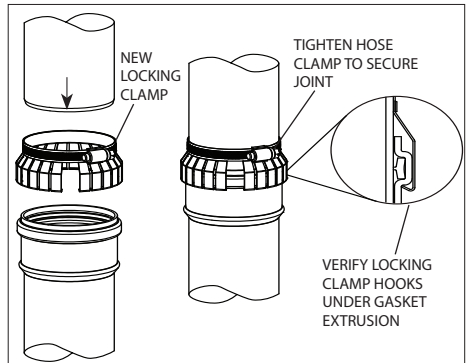
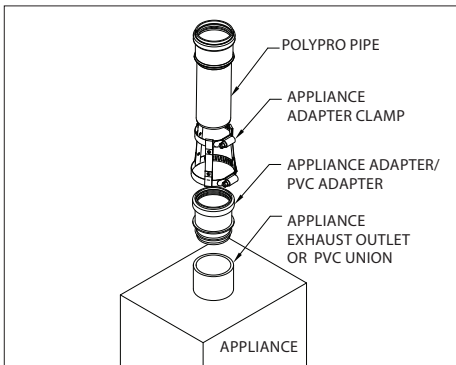
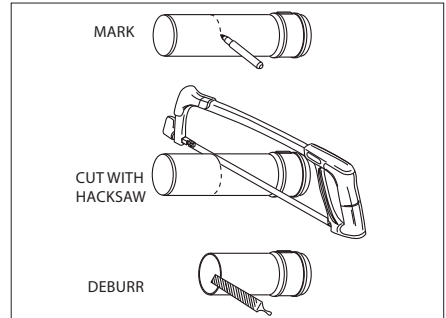

Figure 3b
Figure 4
Figure 6
Locking Clamp (New Design): Verify the gasket is seated evenly inside the groove in the female end. Assemble the joint by passing the male end of the Polypro Pipe through the Locking Clamp on the hose clamp side and into the female end of the PolyPro pipe, (**Fig.3b**). Hook the Locking Clamp onto the gasket extrusion on the female end and tighten down on the hose clamp.
1. If the appliance has a PVC/CPVC female outlet, use the Appliance Adapter/ PVC Adapter and Clamp. (Fig.4)
1. Pipe lengths may be cut to length (Fig.6). If the Locking Tab is removed use the new Locking Clamp (Fig.3b PPS-LC) or alternative clamp (Fig.4 PPS-PAC / PPS-LBC) for the connection.